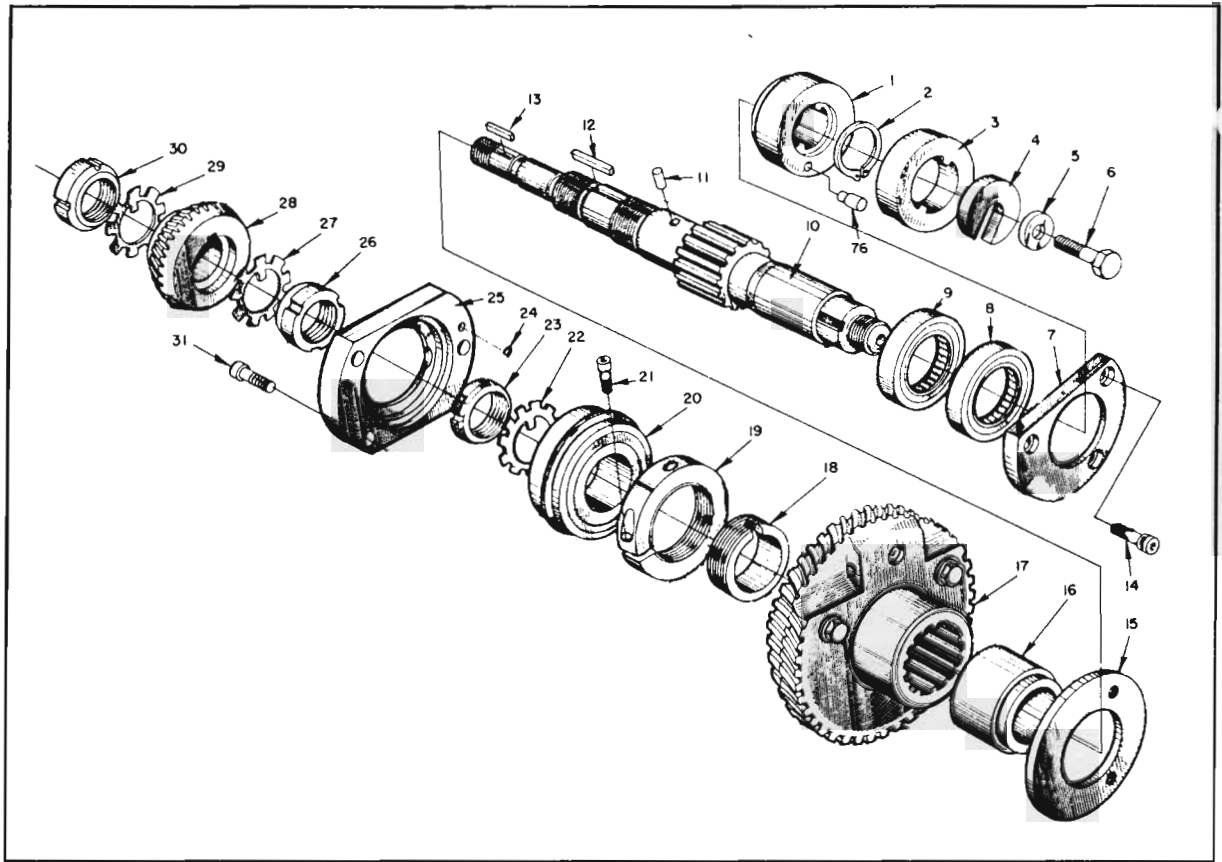

Figure 3-13
To change to a double shear arrangement on machines starting serial #542-2-7747 and 542-3-320 refer to Figures 3-13 and 3-14 and proceed as follows:
10. Prior to machine serial number 542-2-7747 and machine serial number 542-3-320, lead cam shaft (#10) has a threaded portion at end of shaft as shown in Figure 3-13. Remove threaded end with hack saw and file flat.